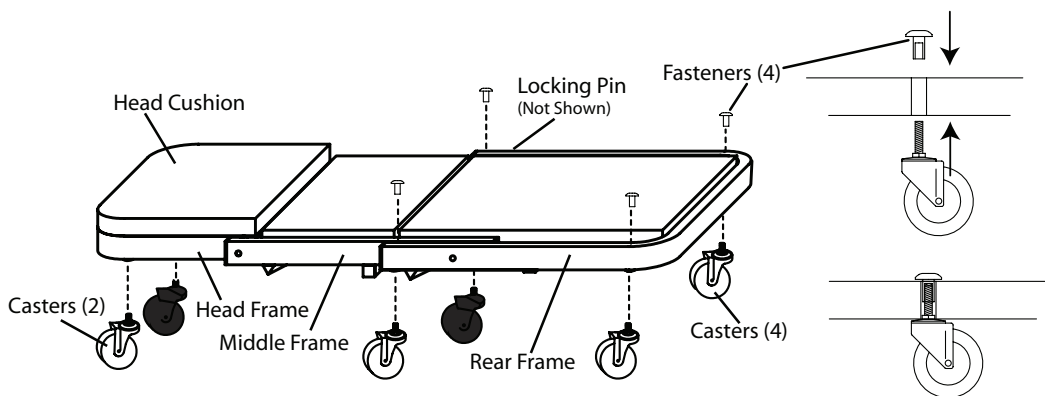

Figure 1 - Model ATD-81045 Components
Before beginning assembly of product, make sure all parts are present. Compare parts with package contents list and Figure 1 illustration. If any part is missing or damaged, do not attempt to assemble, install or operate the product. Contact customer service for replacement parts.
ASSEMBLY INSTRUCTIONS (see Figure 1)
1. Carefully unfold the creeper as seen in Fig. 1.
3. Use a 5 mm hex-key to attach the remaining casters to the Rear Frame. Insert the threaded fasteners from above, the casters from below (as seen in Fig. 1), then hand tighten with hex key.